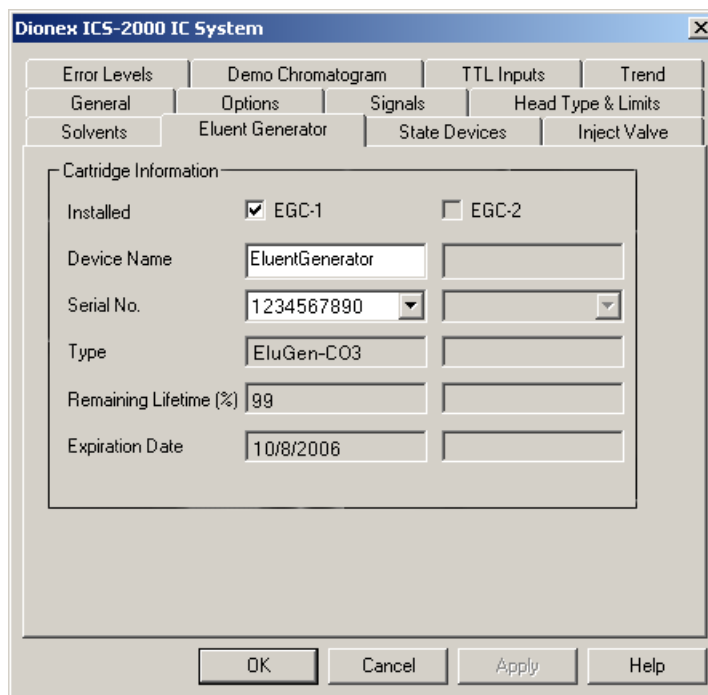

Figure B-86. Eluent Generator Configuration Properties Example
3. Click the **Eluent Generator** tab (see Figure B-86).